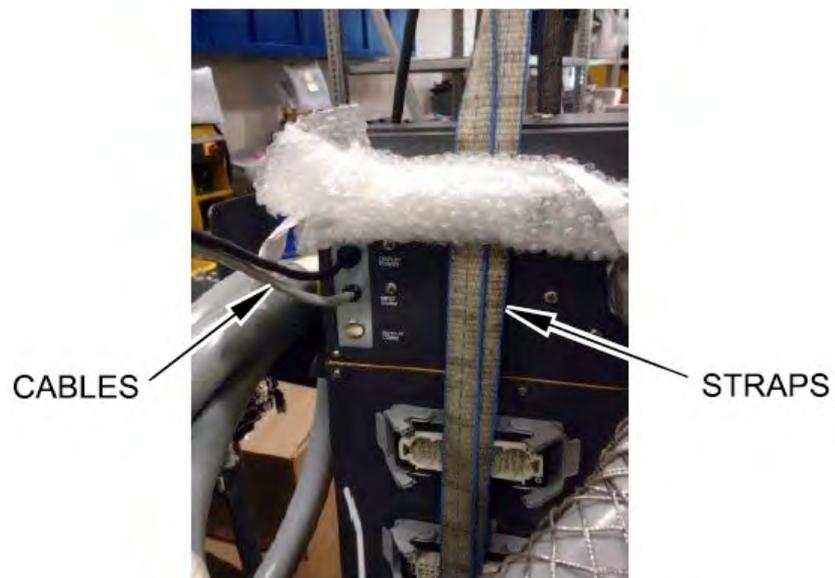

Figure 2-4 Cable Check
- 5. Make sure that no VGSC cables are caught between the VGSC and the webbed straps. Refer to Figure 2-4.